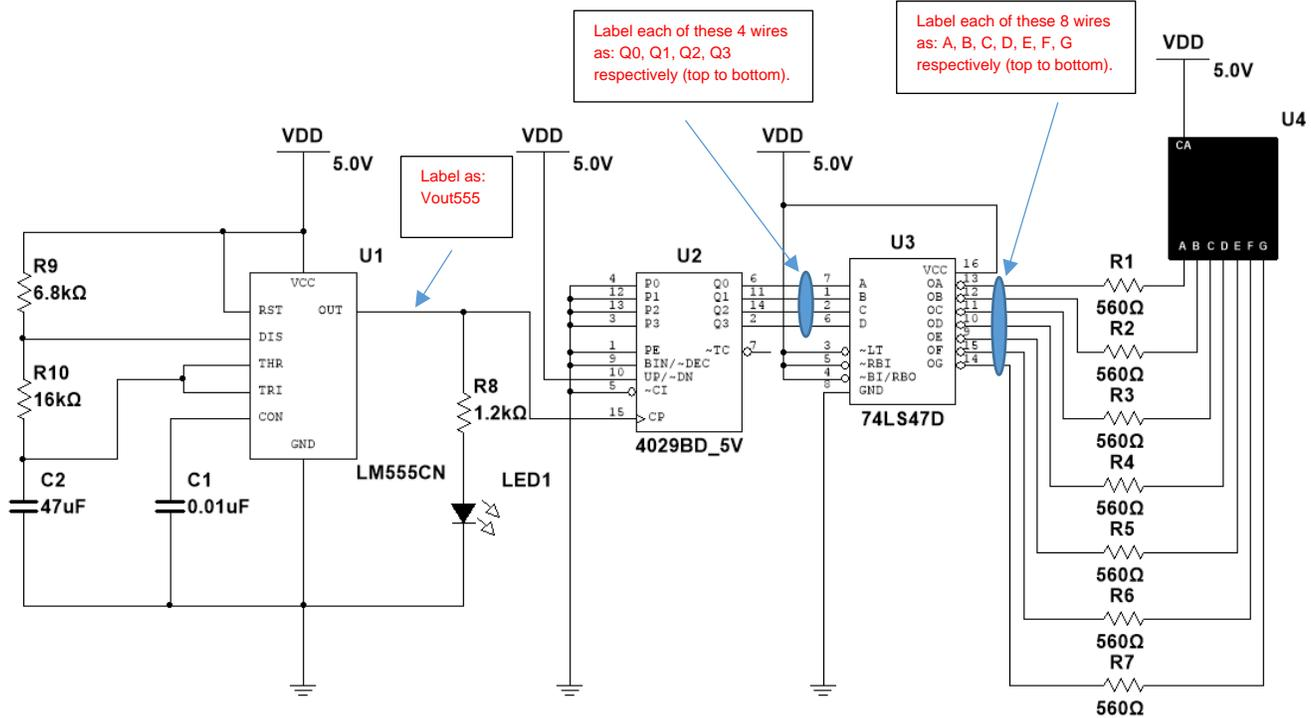

Figure 5
1. Double click on each of the wires highlighted in Figure 5.